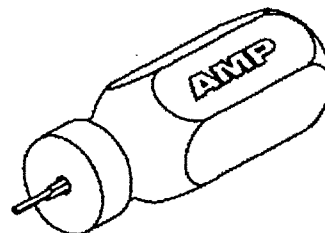

Fig.12 (a)
- (1) Confirm the retainer is in pre-assembled condition. When the retainer is in final lock condition, it must be changed to pre-assembled condition. See para.6.3. The female contact can not be extracted in final assembled condition.
- (2) In the case of 025 contact
- ① Insert the special extraction tool into the proper hole. See Fig.12 (a)
- ② Remove the loaded contact from housing with the crimped wire. See Fig.12 (a)